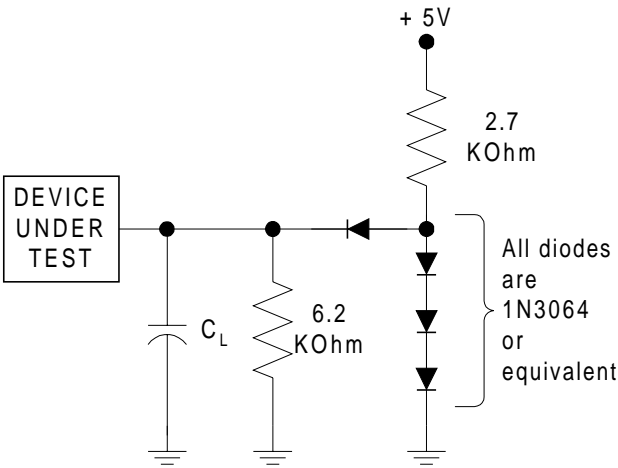

Figure 11. Test Setup
2. See Figure 11 and Table 7 for test conditions.
- 2. See Figure 11 and Table 7 for test conditions.